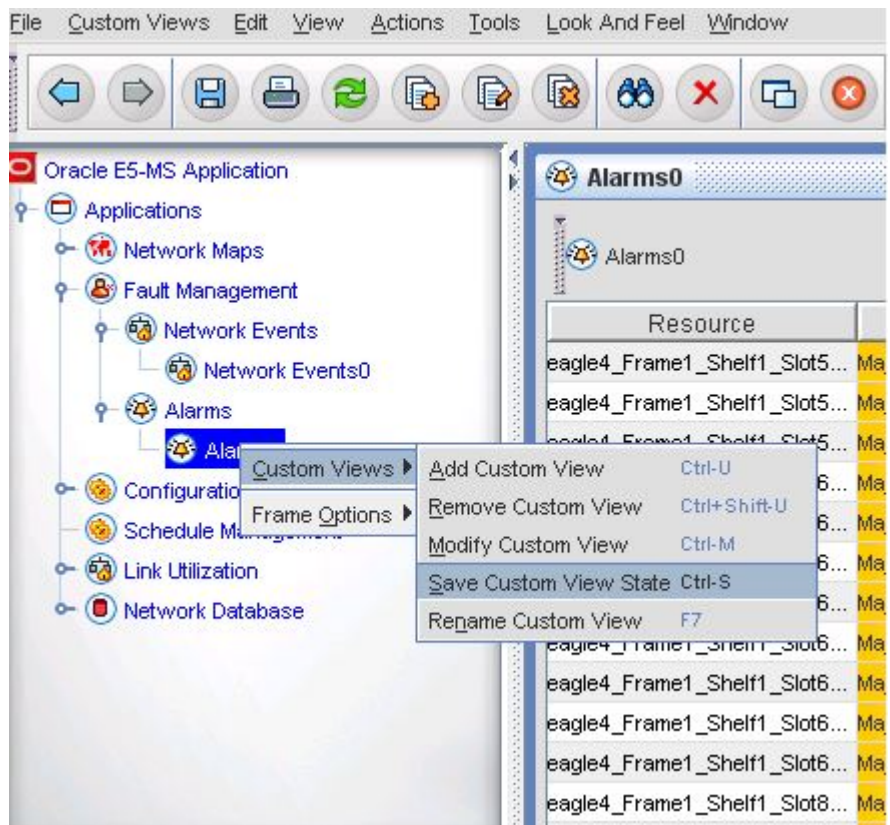

Figure 111: Saving Custom View By Using Left Navigation Pane
- Right-click on the custom view node under the Network Events or Alarms node in the left navigation pane, and choose **Custom Views > Save Custom View State** as shown in Figure 111: Saving Custom View By Using Left Navigation Pane.